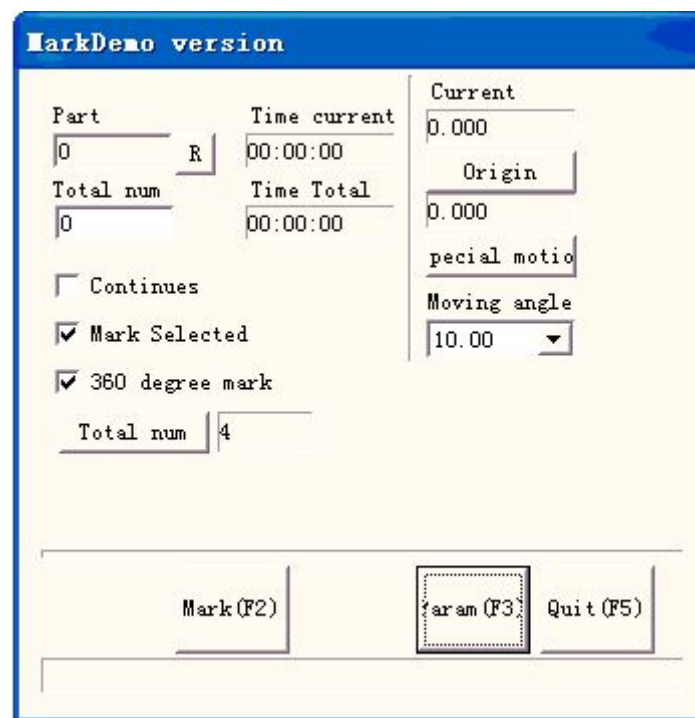

Figure 8-8 Rotary marking2 interface
Except the new option **360 degree mark**, the others parameters in **Rotary marking2** is the same as those in **Rotary marking**, as is shown in Figure 8-8.
**Step 2:** Click menuitem **Rotary marking2** and the dialog box shown in Figure 8-8 popup.